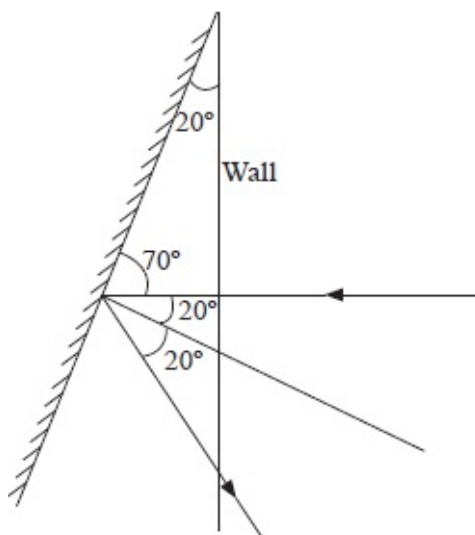

Fig. 8.29
- From figure 8.29, the light makes an angle 70° with the mirror. Hence, the angle of incidence equals 20° .